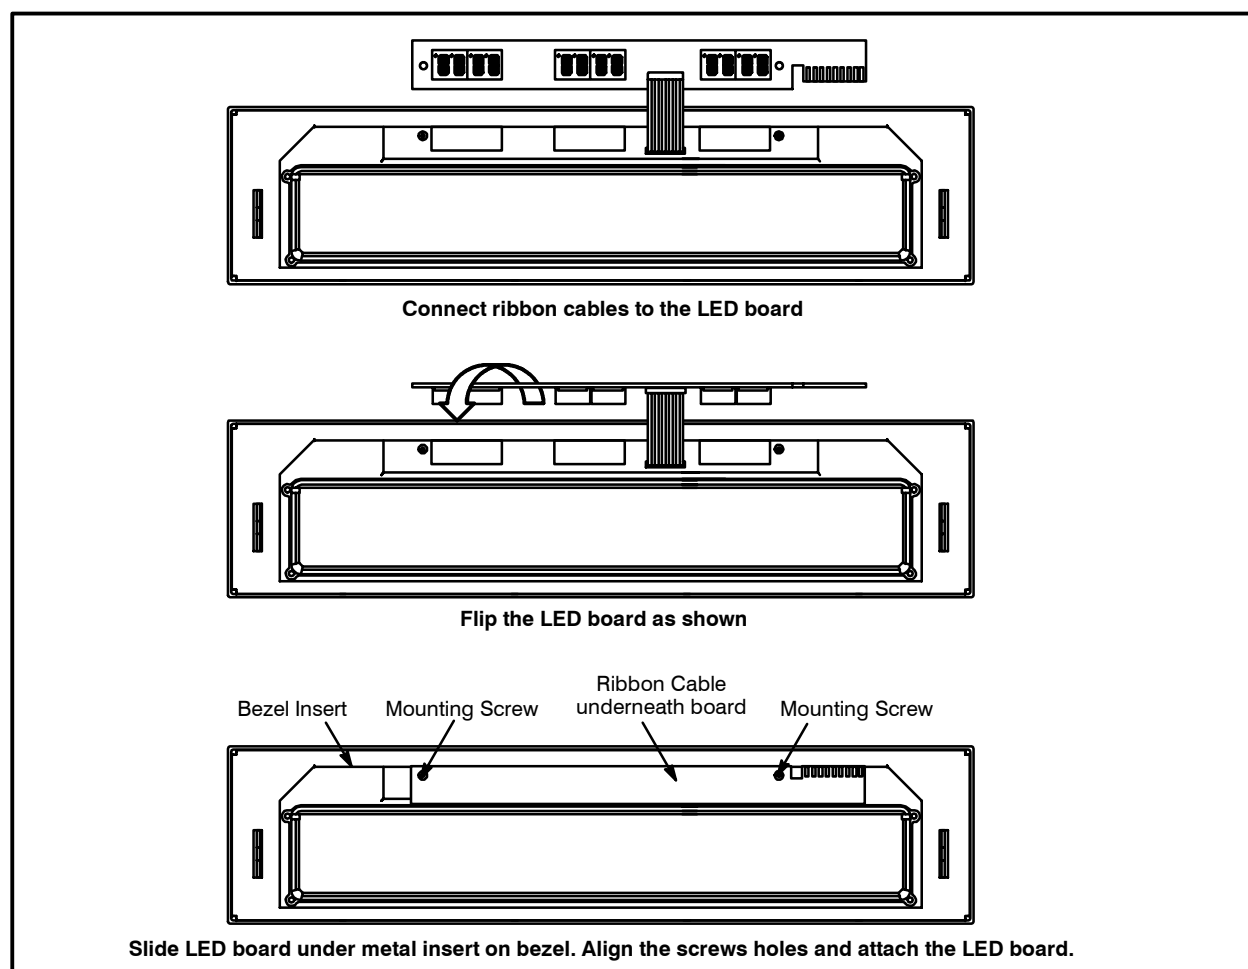

FIGURE 2
7. Install the membrane switch ribbon cable into the LED assembly. Attach the LED assembly to the bezel with the two screws provided. See FIGURE 2 for proper placement and attachment of the membrane switch ribbon cable.
9. Install the membrane switch ribbon cable to the LED board. See FIGURE 2 on page 5–3 for proper placement and attachment of the membrane switch ribbon cable.
8. Install the membrane switch ribbon cable to the LED board. See FIGURE 2 on page 5–3 for proper placement and attachment of the membrane switch ribbon cable.